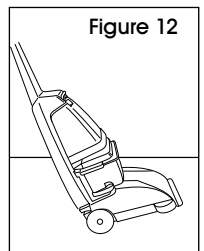

Figure 12
1. Turn cleaner off before transporting. To move the cleaner from room to room, put handle in upright and locked position, tilt cleaner back on wheels, and push forward. (See Figure 12)